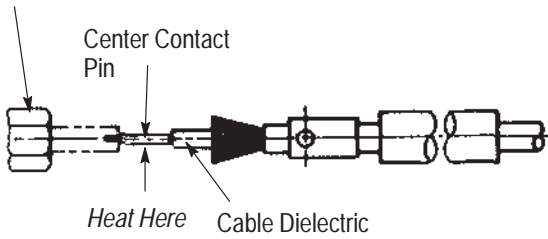

Figure 4
**2.2. Soldering Center Contact to Inner Conductor** (Figure 4)
2. Place center contact in center contact holder (see Figure 4)